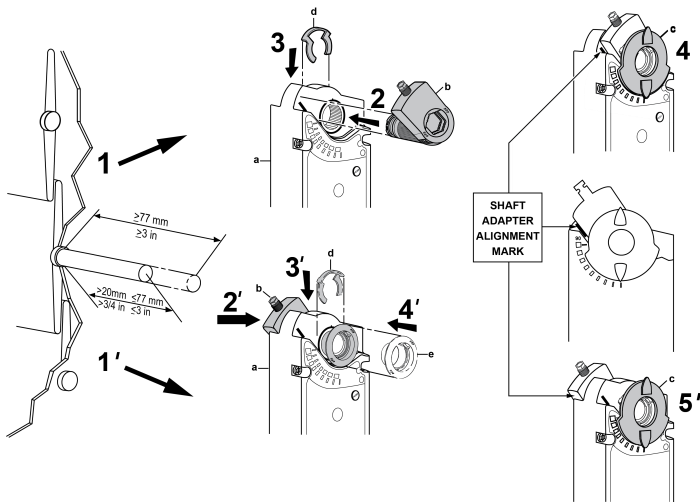
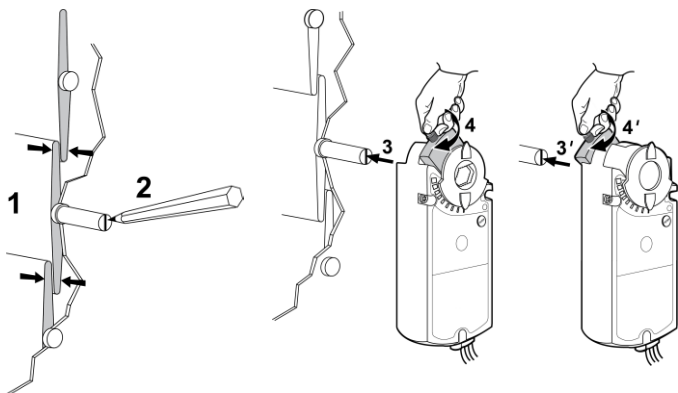
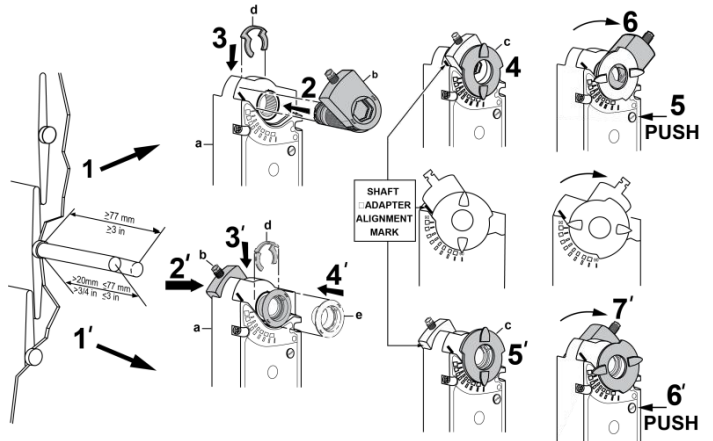
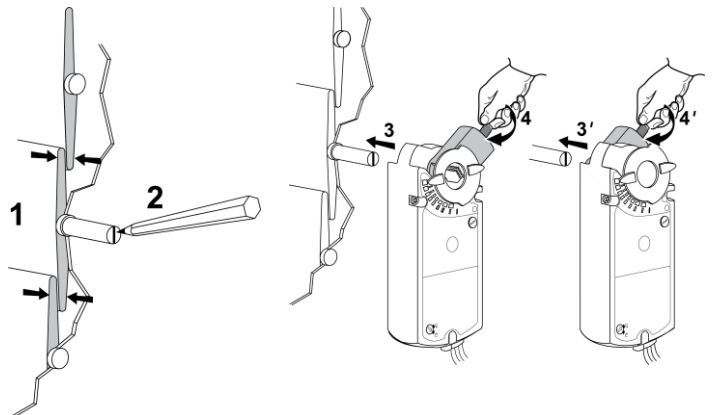

FIGURE 3 - Shaft Adapter Placement for Clockwise Rotation on Short and Long Shafts.
FIGURE 4 - Mount the Actuator to the Shaft. Go to Figure 9 to Complete the Mounting.
FIGURE 5 - Shaft Adapter Placement for Counterclockwise Rotation on Short and Long Shafts.
FIGURE 6 - Mount the Actuator to the Shaft.
3. See Figure 3 and Figure 4 for clockwise-to-open (CW) installation. See Figure 5 and Figure 6 for counterclockwise-to-open (CCW) installation.